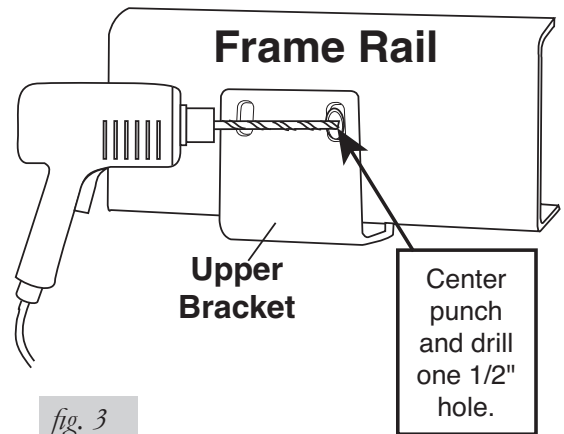

fig. 3
2. Put the upper bracket into position on the frame rail and drill one 1/2" hole in the side of the frame rail (Figure 3).